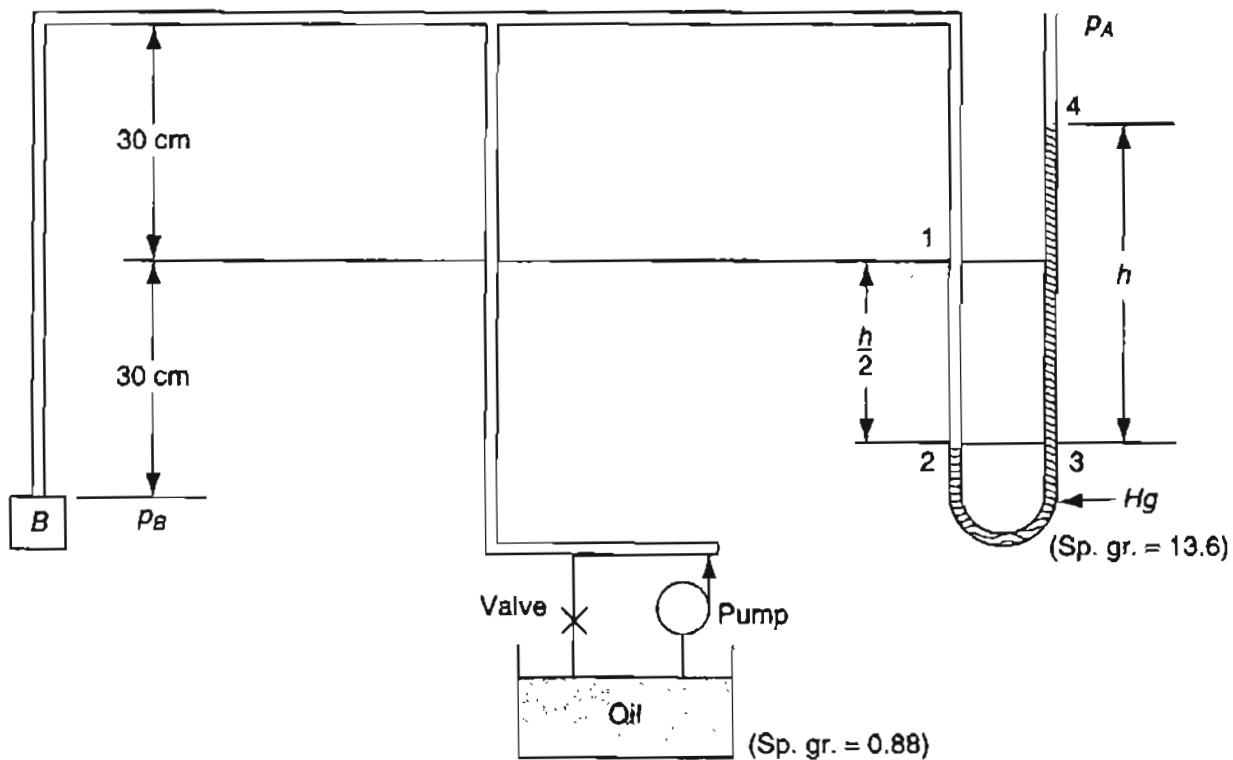

Figure P5.25
- ✓ ***5.25 Express p_B as a function of h based on the data given in Figure P5.25. The non-shaded tube contains oil.